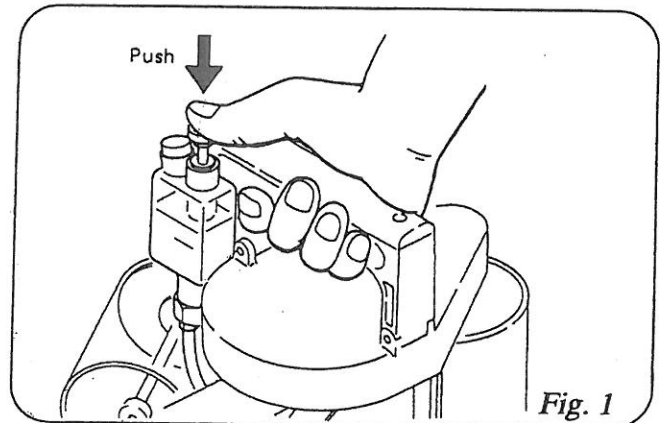

Fig. 1
- Confirm that the machine has been lubricated as per Fig.1 in the manual.
1. Oiling (Fig.1)